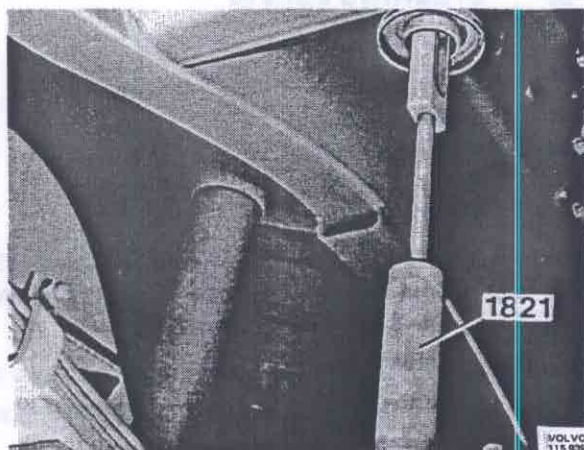
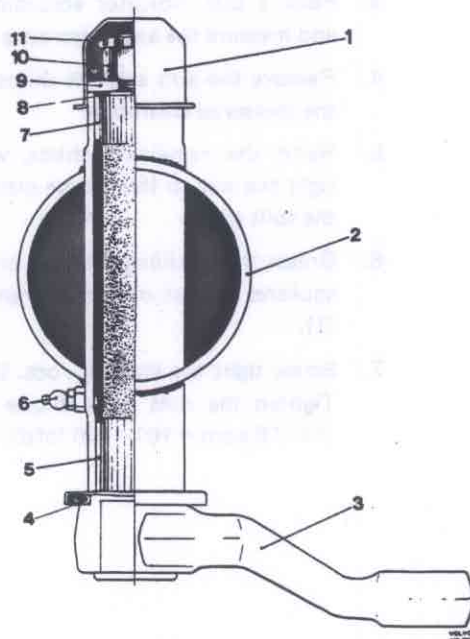

Fig. 64-26. Removing the lower bushing
Fig. 64-28. Auxiliary steering arm
3. Remove the cover (1, Fig. 64-28) at the top of the shaft.
4. Remove the split pin (11) and unscrew the nut (10).
5. Take down the auxiliary steering arm and take care of the washer (9) and shims (8).
6. Knock out the lower bushing (5) with impact tool 1821, see Fig. 64-26.
1. Replace the sealing ring (4, Fig. 64-28). Check the contact surface of the sealing ring against the protector ring, and if necessary replace the ring. The ring is tapped securely in position with a plastic mallet.